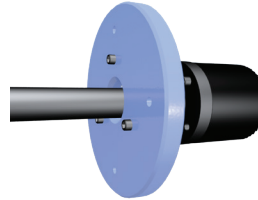

Figure 55
4.3.12) Attach Centering Ring to Coring Adaptor using 1/2"-13 x 2" Hardware (see Figure 55).